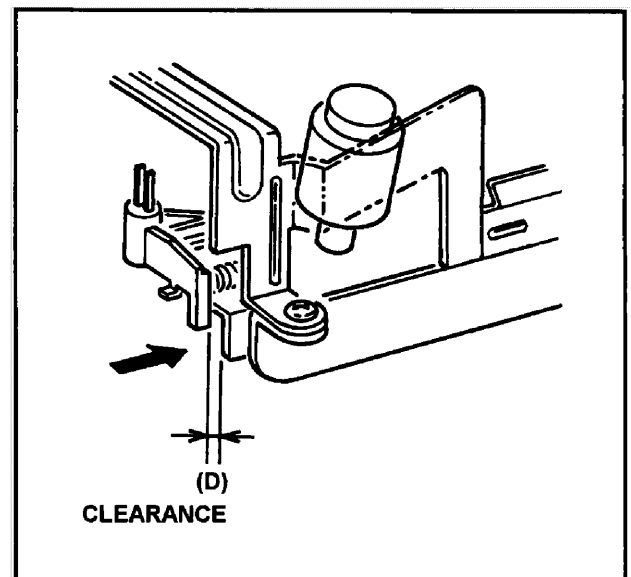

Fig.M21
2. Observe the clearance (D) between Cleaning Arm Unit and Cleaner Base Plate as shown in Figure M21. And make sure that it is in between 0.5 and 0.7mm.
3. If not, loosen the 2 screws (A) and adjust the position of Cleaner Solenoid Unit by moving to arrow direction (C↔C) with eccentric driver so that the clearance (D) is within the specification, And tighten the 2 screws (A).